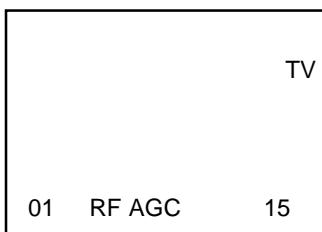

Fig. 1-1
2. Press the VOL. DOWN button on the set and the channel button **(9)** on the remote control for more than 2 seconds to display adjustment mode on the screen as shown in **Fig. 1-1**.
3. Activate the adjustment mode display of **Fig. 1-1** and press the channel button **(13)** on the remote control to select "VCO COARSE".